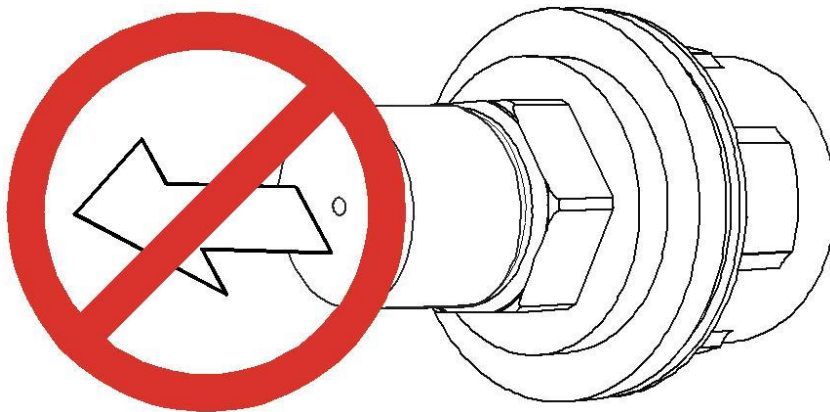

Figure 2-1: Plastic Cap Must Remain in Place Until the Sensor Is Installed on the Valve
1. Do not remove the plastic cap from the sensor's threaded extremity until the sensor is installed on the valve (see Figure 2-1). This cap protects the threads and the sensor from debris and sharp objects. If the sensor is unmounted, place immediately the cap onto its threads.